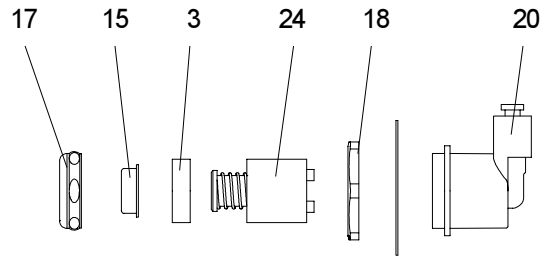

FIG. 7
8. Open service stop and operate push button to purge air from system. Check thoroughly for leaks. Check stream height from bubbler. Stream height is factory set at 45-50 PSI. If supply pressure varies greatly from this, remove items 15 and 17 and adjust screw on regulator (item 24) see figure 7. Clockwise adjustment will raise stream and CCW adjustment will lower stream height. For best adjustment stream height should be approximately 1-1/2" (38mm) above the bubbler guard. (See Fig.11).